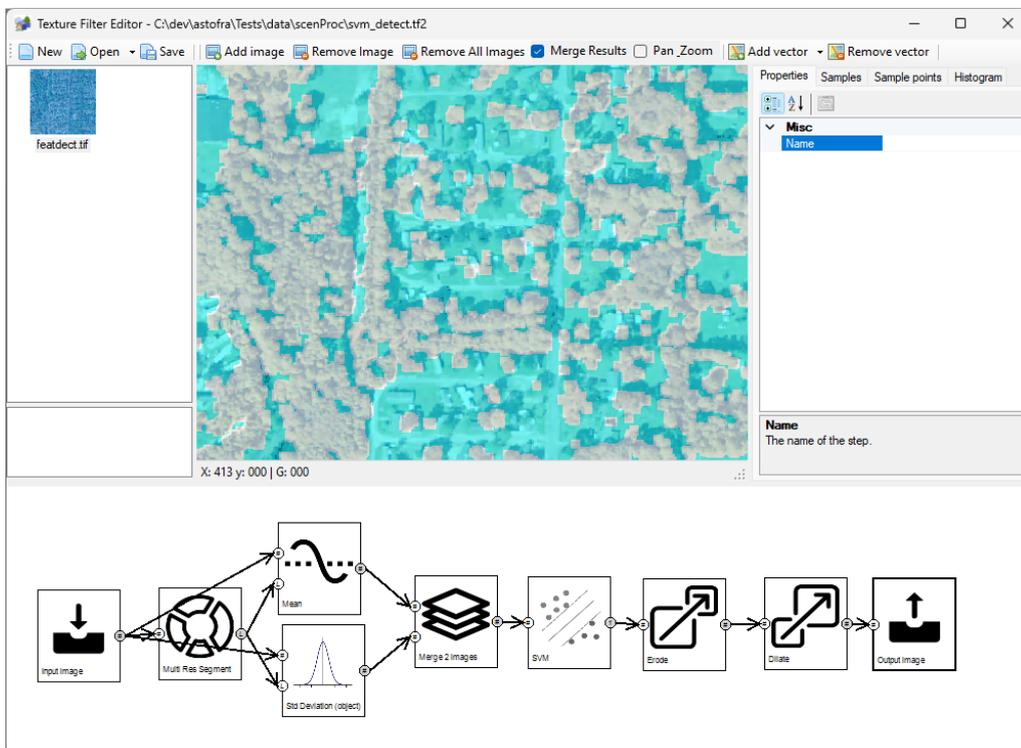

Figure 6.57: The final detection result merged with the input image
9. The output, the detected vegetation, is shown here merged with the input image, see Figure 6.57.